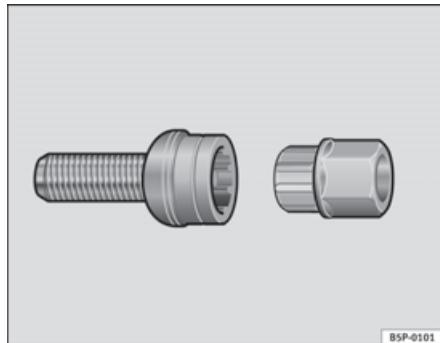

Fig. 146 Anti-theft wheel bolt
- Insert the adapter onto the wheel bolt and push it on as far as it will go ⇒ fig. 146.